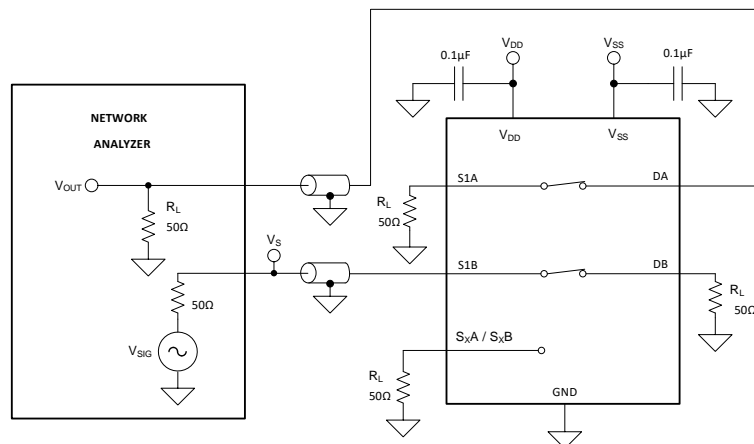

图 26. Crosstalk Measurement Setup
Crosstalk is defined as the ratio of the signal at the drain pin (D) of a different channel, when a signal is applied at the source pin (Sx) of an on-channel. 图 26 shows the setup used to measure, and the equation used to compute crosstalk.